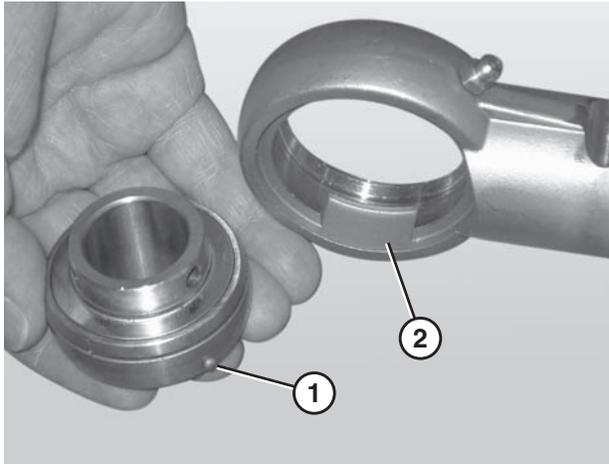

Figure 89
5. Remove the worn or damaged bearing (Figure 89, item).
When inserting the new bearing, make sure the anti-rotation notch (Figure 89, item 1) on the bearing lines up with the groove inside the housing (Figure 89, item 2).